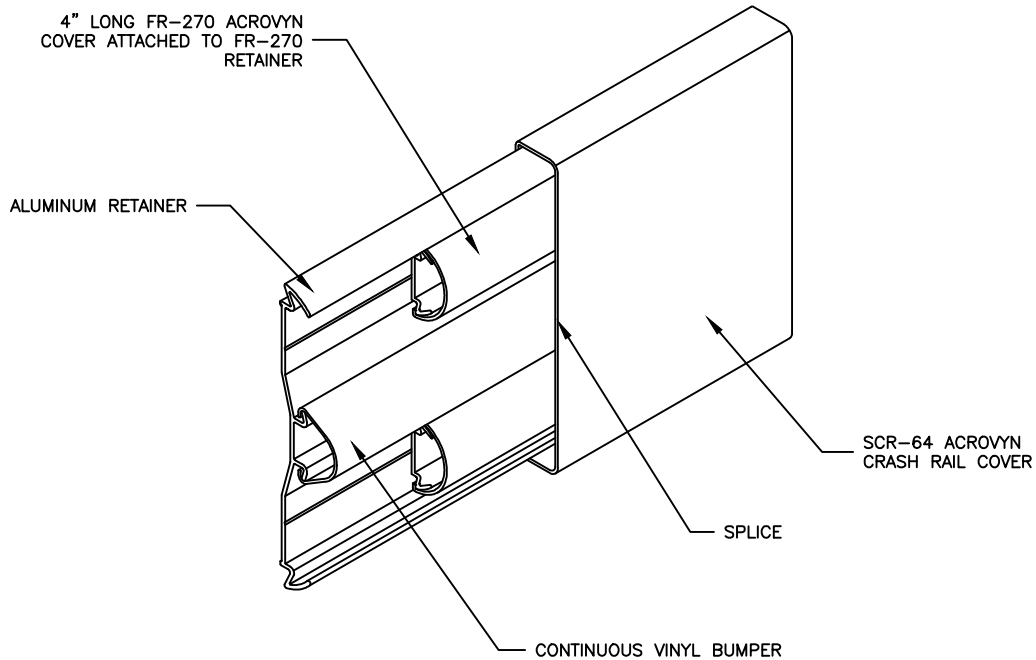

FIGURE 2.
5. ATTACH THE 4" LONG FR-270 COVERS TO THE APPROPRIATE RETAINERS BY SNAPPING THEM INTO PLACE. REMOVE THE PROTECTIVE COVERING FROM THE FACTORY APPLIED ADHESIVE AND ATTACH THE ASSEMBLY TO THE RETAINER AT ALL ACROVYN SPLICE JOINTS. (SEE FIGURE 2)